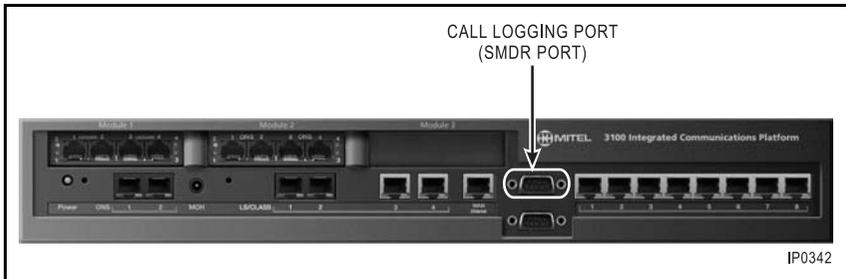

Figure 6: Call logging port
1. Using an RS-232 cable, connect the printer or PC to the call logging (SMDR) port on the front of the controller (see Figure 6).